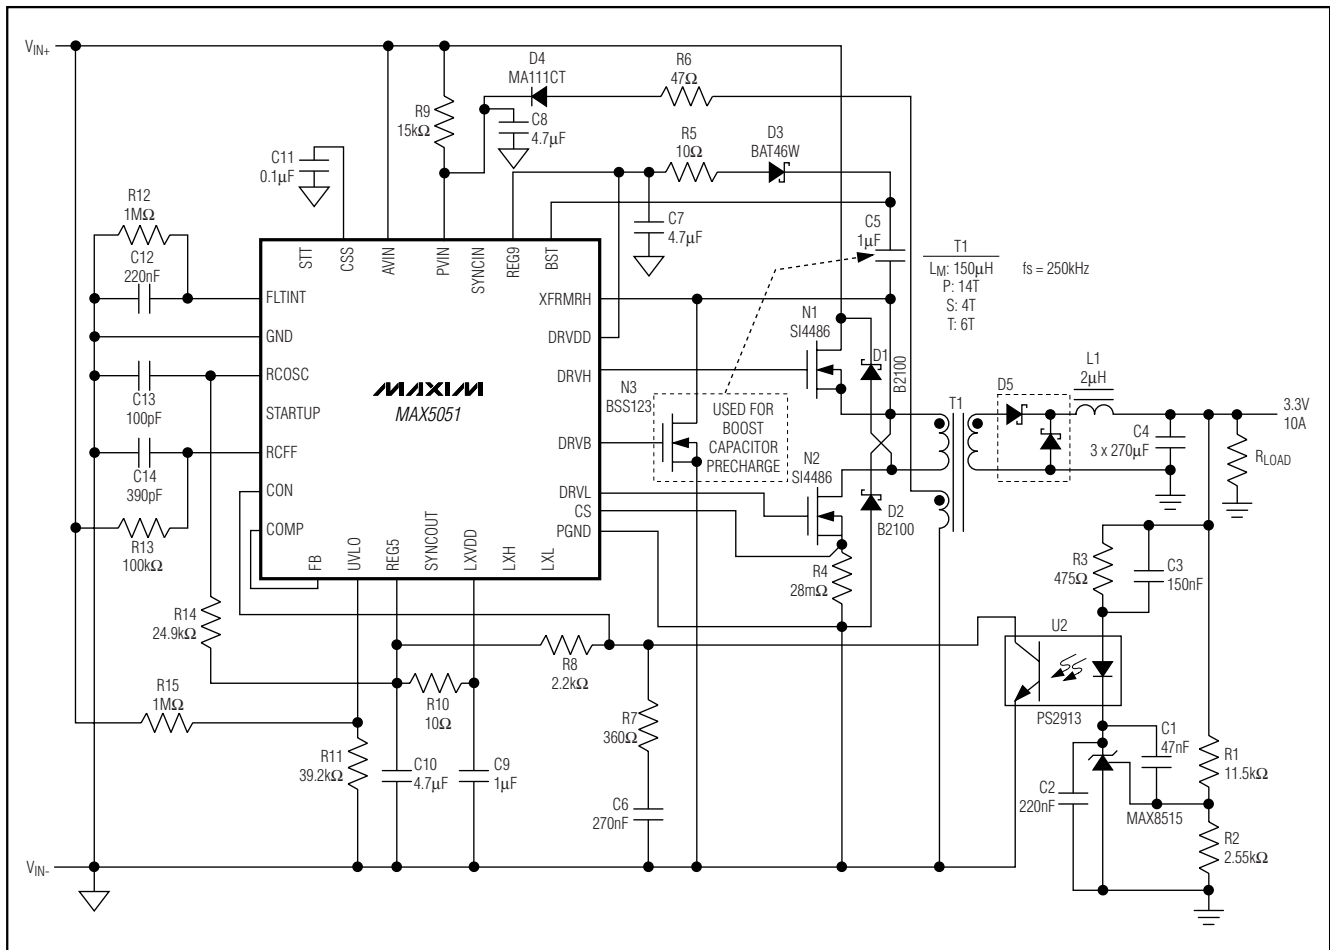

Figure 2. Typical Application Circuit
The two-switch power topology has the added benefit of recovering practically all magnetizing as well as the leakage energy stored in the parasitics of the isolation transformer. The lower clamped voltages on the primary power FETs allow for the use of low $R_{DS(ON)}$ devices. Figure 2 shows the schematic diagram of a 48V input 3.3V/10A output power supply built around the MAX5051.
If the charge stored on the boost capacitor is not adequately replenished then the gate-driver lockout for the high-side MOSFET is triggered, stopping the high side from switching. The low side continues switching, eventually recharging the capacitor, at which point the high side starts switching again. To prevent this behavior, use the boost capacitor's cycle-by-cycle charging circuit to prevent unwanted shutdowns of the high side (Figure 2). Connect the gate of a small high-voltage FET (with the same voltage rating or higher as the main FETs) to the DRVVB output of the MAX5051. Connect the drain of this FET to XFRMRH, and connect the source to the primary ground. DRVVB will briefly (300ns) turn this FET ON every cycle after the main PWM clock terminates. This allows the boost capacitor to be replenished under all conditions, even when switching stops completely. A suitable FET for this is BSS123 or equivalent (100V, 170mA rated). The boost-capacitor charge
The error amplifier in the MAX5051 has an uncommitted inverting input (FB) and output (COMP). Use this amplifier when secondary isolation is not required. COMP can then be directly connected to CON (the input of the PWM comparator). The noninverting input of the error amplifier is connected to the soft-start generator and is also available externally at CSS. A capacitor connected to CSS is slewed linearly during initial startup with the 70µA internal current source (see Figure 2). This provides a linearly increasing reference to the noninverting input of the error amplifier forcing the output voltage also to slew proportionally. This method of soft-start is superior to other methods because the loop is always
After coming out of standby and before initiating the soft-start, the MAX5051 turns on the low-side FET to charge up the boost capacitor. A voltage detector has been incorporated in the high-side driver that prevents the high-side switch from turning on with insufficient voltage. It is also used to indicate when the boost capacitor has been charged. Once the capacitor is charged, soft-start commences. If the duty cycle is low, the magnetizing energy in the transformer may be insufficient to keep the bootstrap capacitor charged. DRVb (see Figure 2 dotted lines) has been provided to drive a small external FET connected between XFRMRH and PGND, and is pulsed every cycle to keep the capacitor charged.